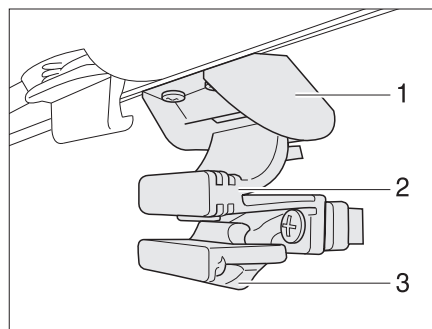

Fig. 53 Window in the conversion door
- Press the locking device (Fig. 53,3) to the rear.
- Press the handle (Fig. 53,2) together and push the window down.
- Push the window upwards until the handle (Fig. 53,2) latches into the locking mechanism (Fig. 53,1).